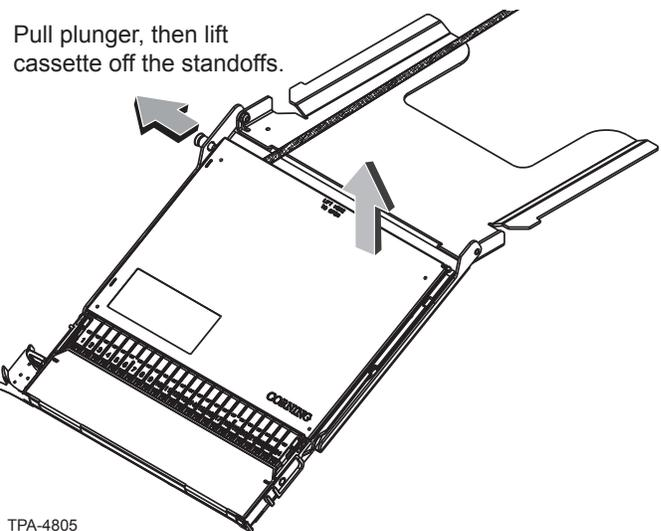

Figure 27
**Step 23:** If using the cassette service bracket, pull the plunger on the side and lift the cassette off the service bracket (Figure 27).